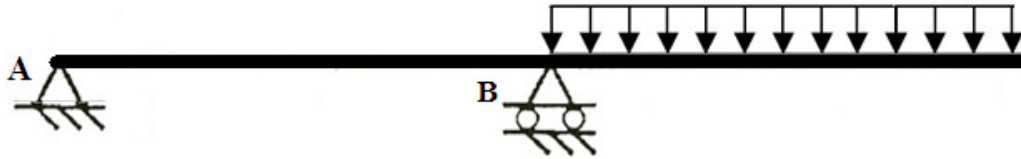

Figure Q1A
- (i) Analyse the beam in Figure Q1A for reactions, bending moment diagram and shear force diagram. [6]